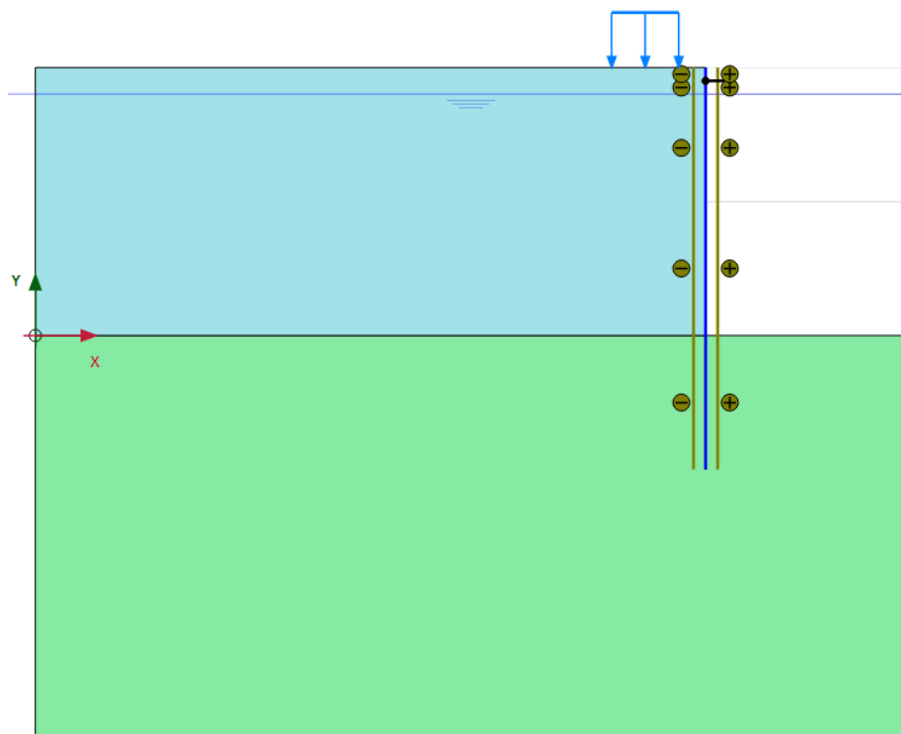

Figure 52: Model for the third excavation phase
2. Deactivate the third cluster from the top on the right hand side of the mesh. The model for the phase is shown in Figure 52 (on page 67):